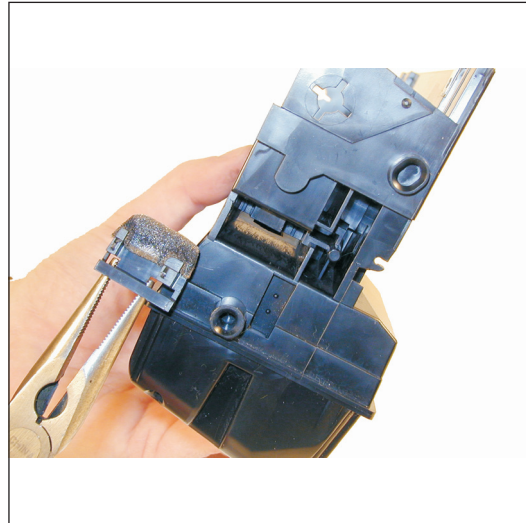

Figure 24
18) Remove the seal foam plug with needle nose pliers. This plug has a tight fit. See Figure 24